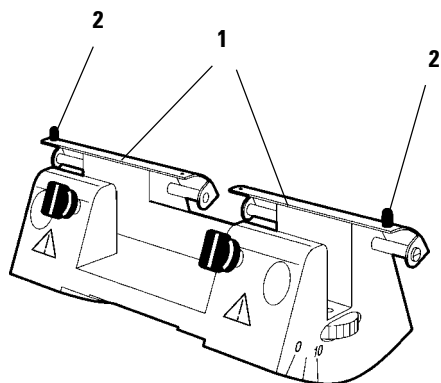

Fig. 6.1
The knife guard of knife holder N (Fig. 6.1) has two small grips (2) for conveniently moving the knife guard rails.